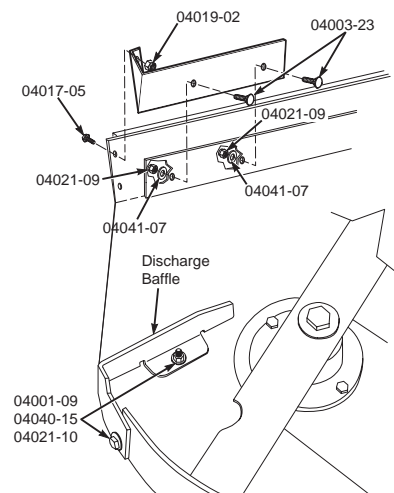

FIGURE 3-2
5. When installing this grass catcher on a machine with a serial number below 8479999, you will need to remove the discharge baffle from the bottom of the cutter deck. See Figure 3-2. Replace the discharge baffle with the new baffle provided with this grass catcher.
When installing this grass catcher on an Advantage deck, install the front baffle to the cutter deck. See Figure 3-2. Secure using the following hardware: